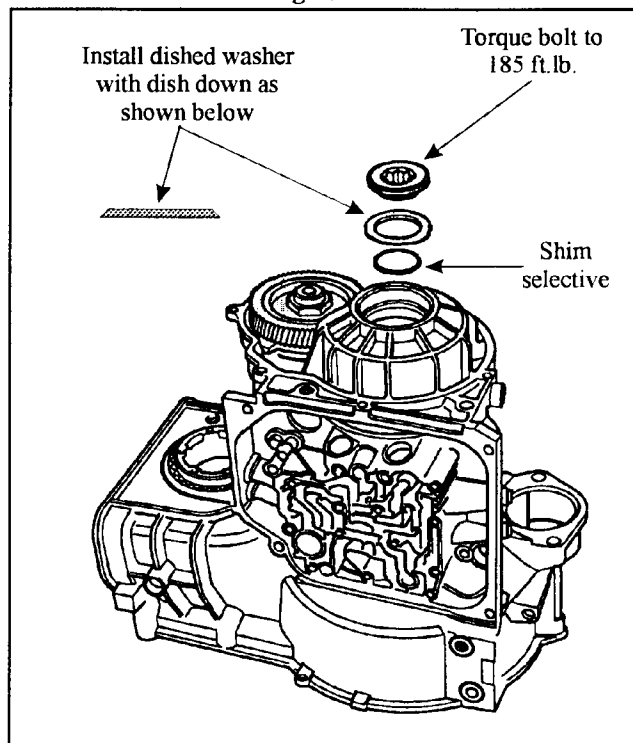

Figure 141
5. Install the dished washer into the output ring gear with the dish facing down as shown in Figure 141.
6. Thread the locking bolt into the threads on the output ring gear, and torque to 185 ft.lb. (See Figure 141).